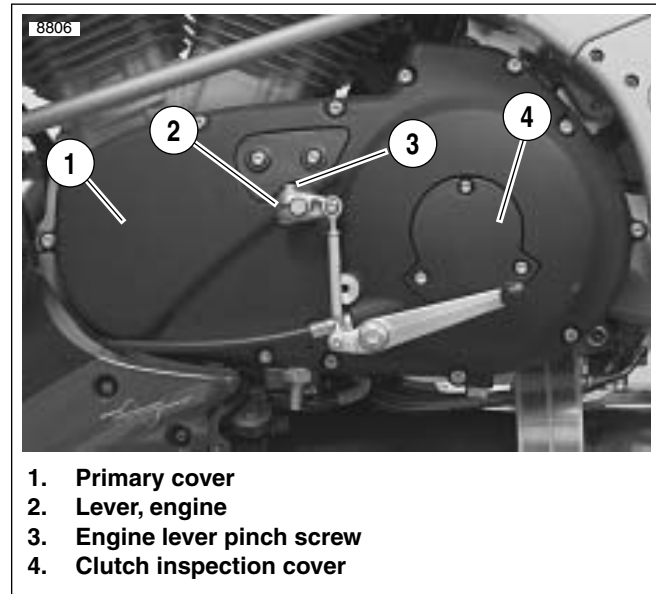

Figure 6-5. Installing Primary Cover
11. See Figure 6-5. Install clutch inspection cover (4) with **new** gasket and three TORX screws with washers. Tighten screws in a crosswise pattern to 84-108 **in-lbs** (9.5-12.2 Nm).
12. Install rubber washer and shifter lever assembly (2).
13. After applying LOCTITE 272 (red), tighten engine lever pinch screw (3) to 48-60 **in-lbs** (5.4-6.8 Nm).